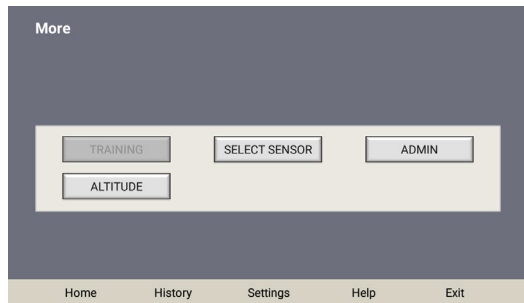

FIGURE 22
3. Go to the Settings tab (Figure 22).